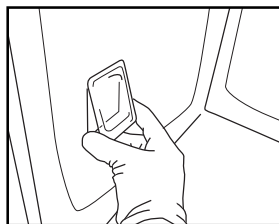

Fig. 12
5. Reposition the lamp cover, pushing it on firmly until it snaps into place (Fig. 12).